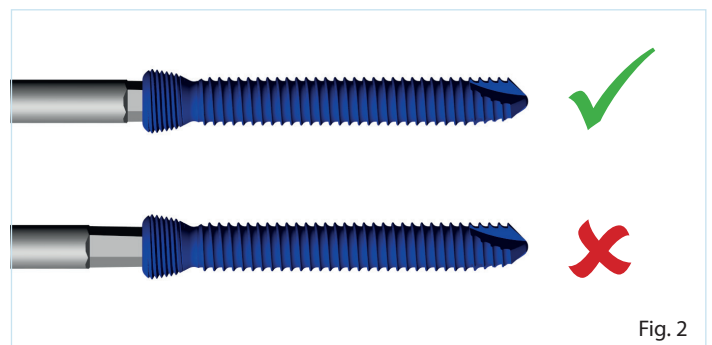

Fig. 2
– The most important step for correct removal of a screw is good placement of the screwdriver into the screw head. Poor contact of the screwdriver with the screw head is likely to damage both the screwdriver and the inner hexagon of the screw head (Fig.2).